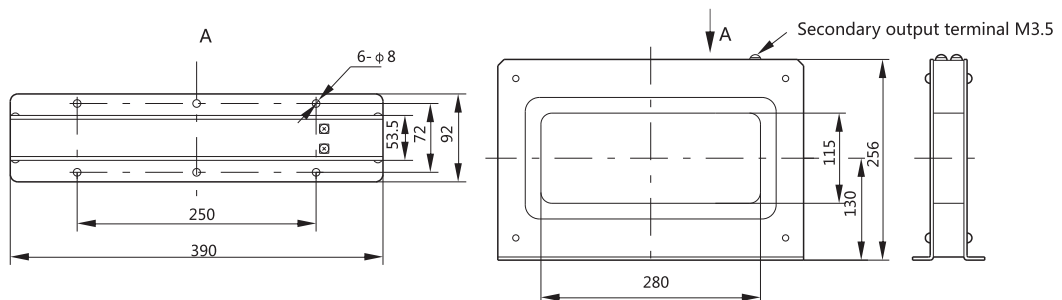

Figure 30 ZCT1 rectangular leakage transformer
When the grounding protection mode is the leakage type (E), the installation dimensions of the external special rectangular transformer are shown in Figure 30.